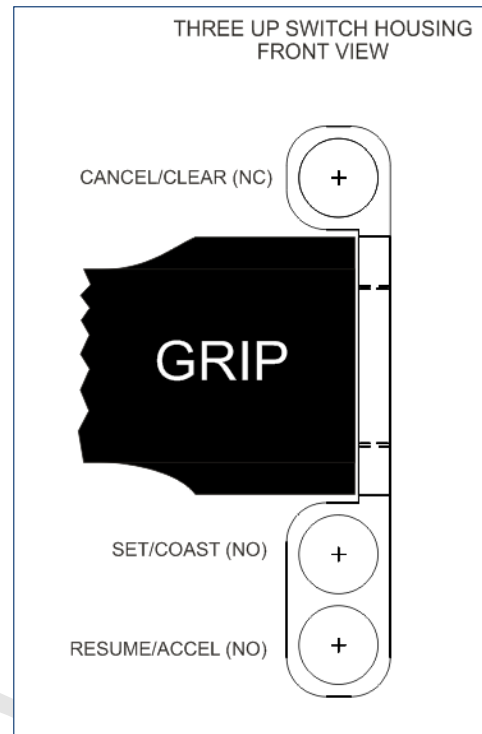

Fig.35
- The three button switch housing incorporates a normally closed switch (NC). This switch is used to “power cycle” the cruise unit. It is always the top button in a three button switch.(Fig.35)